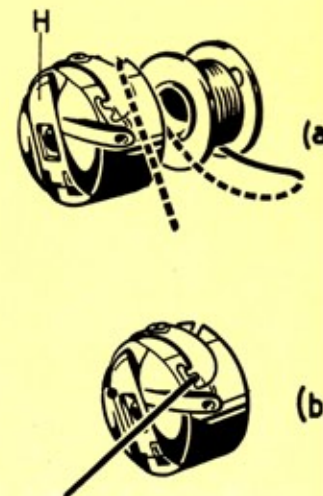

Fig. 9a - 9b
- Insert bobbin into bobbin case; thread must be wound around bobbin as indicated in Fig. 9a.